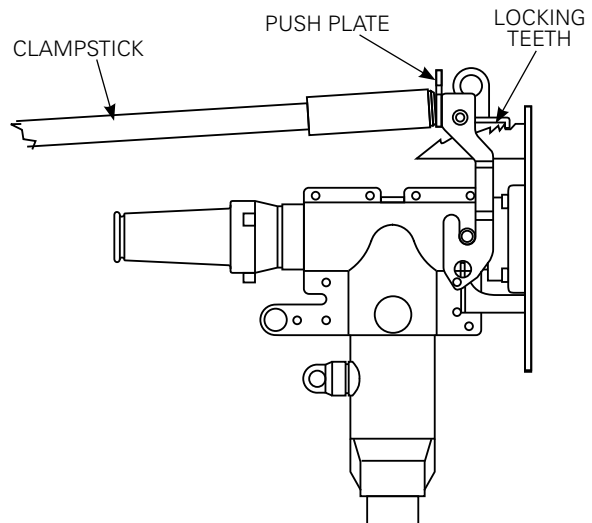

Figure 18a. Line illustration of full engagement of push plate.
- Push forward on push plate firmly with clampstick until a bump is felt and latch plate fully engages locking teeth. (Refer to Figure 18a.)